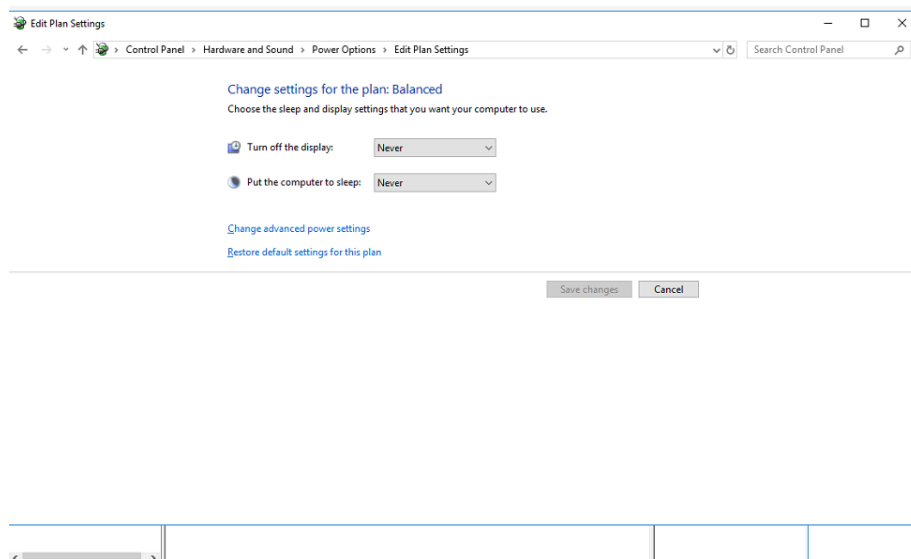

Figure15 Select Advanced Power Settings
2. Click “Power Option” – “Edit plan settings”, select “Never” as shown in figure 15.